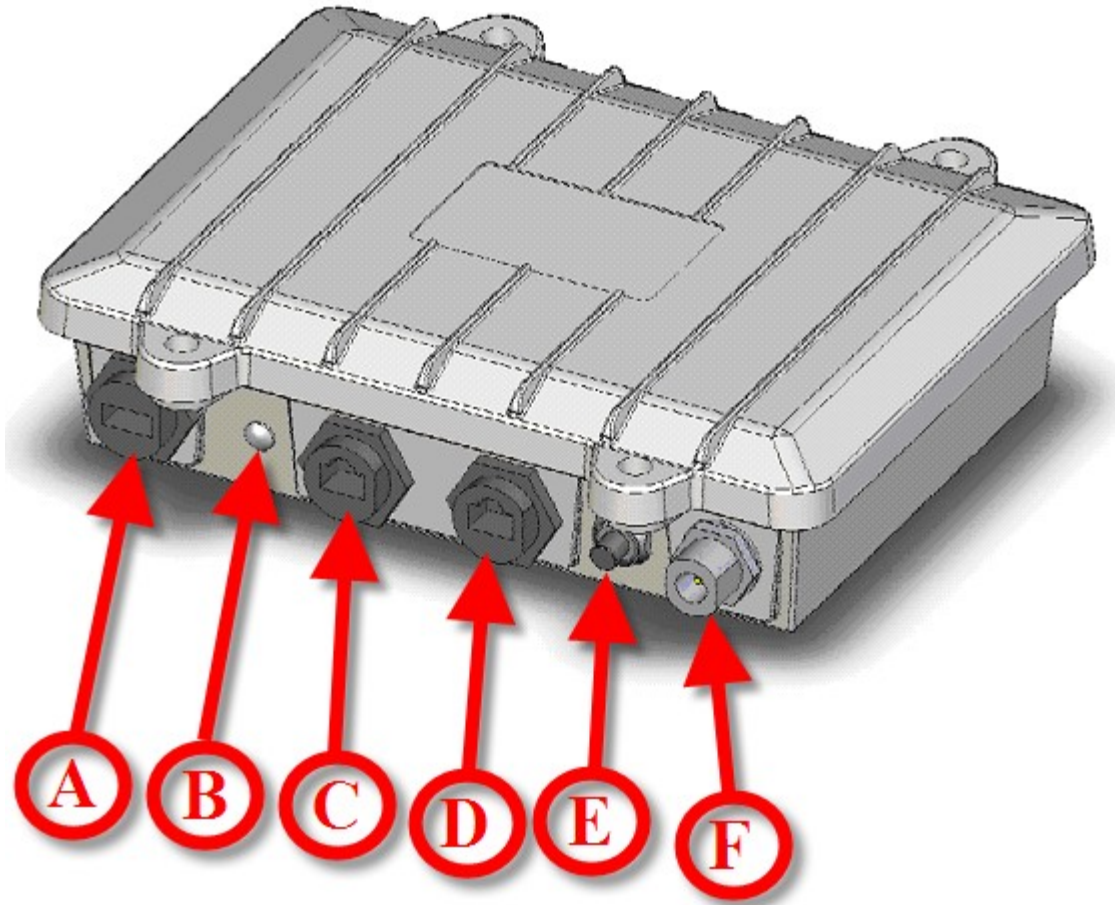
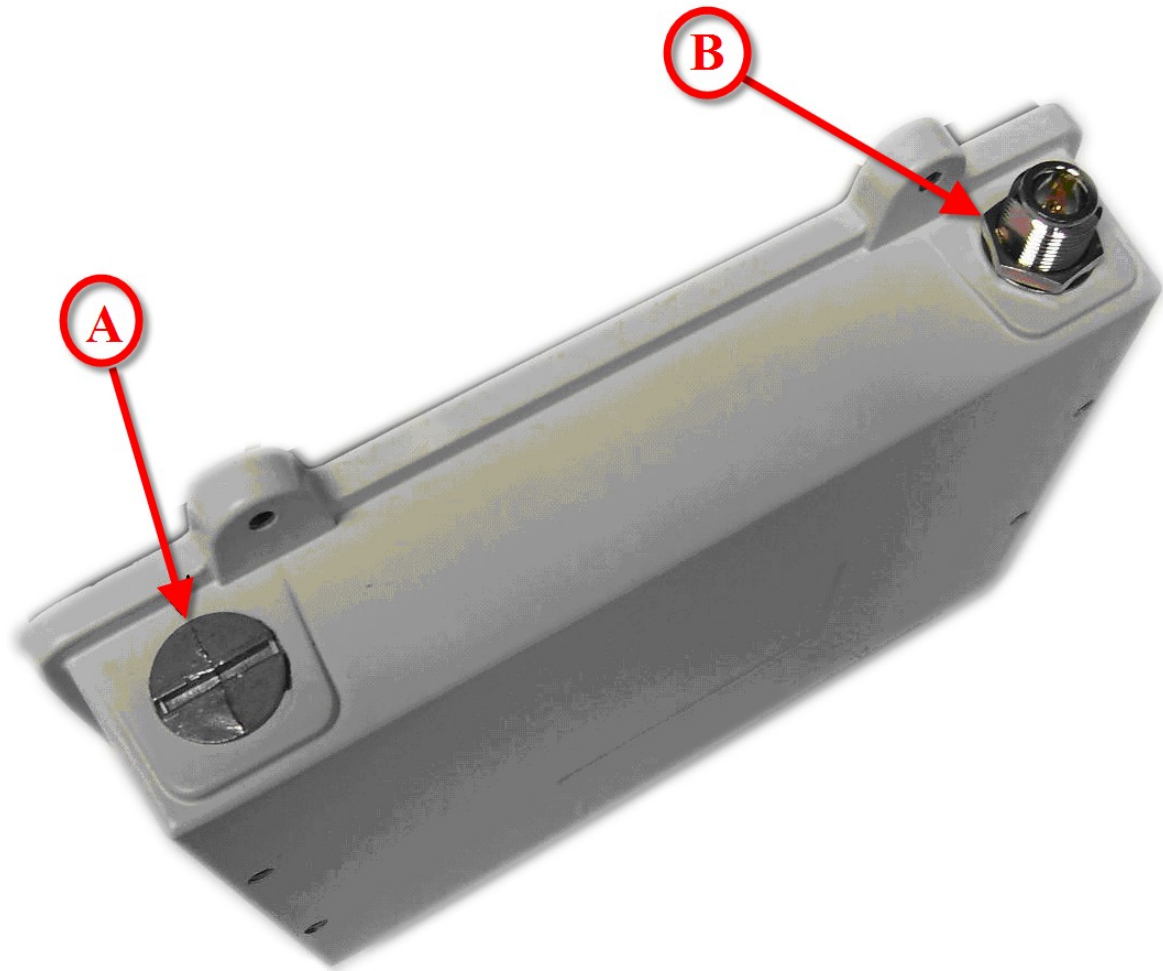

Figure 3: BreadCrumb LX/LX3 Enclosure Features (Top-Front Side).
Figure 4: BreadCrumb LX/LX3 Enclosure Features (Bottom-Rear Side).
The external features of the enclosure are shown in Figure 3 and Figure 4.
The BreadCrumb LX provides two Type N female antenna connectors. The connector located on the front side of the enclosure (see F in Figure 3) interfaces to the 2.4 GHz antenna. The connector located on the the back side of the enclosure (see B in Figure 4) interfaces to the 900 MHz, 2.4 GHz, 4.9 GHz or 5 GHz antenna depending on the BreadCrumb LX model.
The BreadCrumb LX3 provides three Type N female antenna connectors. The connector located on the front side of the enclosure (see F in Figure 3) interfaces to the 2.4 GHz antenna. The connector located on the the back side of the enclosure, on opposite corner of the front side antenna (see B in Figure 4), interfaces to the 900 MHz or 5 GHz antenna depending on the BreadCrumb LX3 model. Finally, the remaining connector on the back side of the enclosure (see A in Figure 4) interfaces to the 2.4 GHz or 5 GHz antenna depending on the BreadCrumb LX3 model.
The BreadCrumb LX/LX3 contains two 10/100 Base-TX Ethernet ports named ETH0/PWR RJ45 and ETH1 RJ45 (see Figure 3). Both ports support Auto-MDI/MDIX allowing the use of either straight-through or crossover data cables for connections to the ports. Use of the supplied data cable is recommended for outdoor installations. The supplied data cable features a ruggedized RJ45 connector which provides an environmental seal when connected to the ETH0/PWR RJ45 port on the BreadCrumb LX/LX3.
The Zeroize Keys and Restore Factory Defaults / LED Configuration Switch (see Figure 3) has two modes of operation. The modes are set by the length of time the switch is asserted. The modes are:
- Ensure that the BreadCrumb is powered on, has fully booted-up and its Status LED (see Figure 3) color is green or blue (see Table 7).